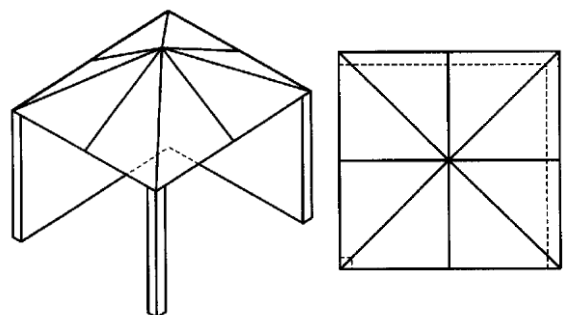

Figure 2 - Partial Enclosure with overhead cover and no more than two walls
- Within a partial enclosure that includes an overhead cover and no more than two walls. See Figure 2 & 3.